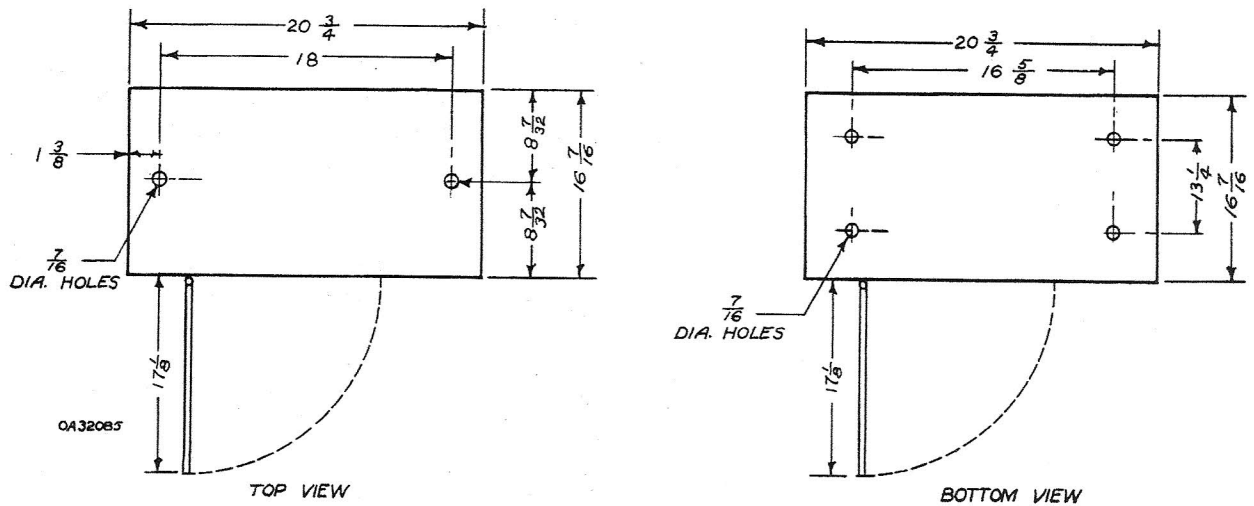

Figure 4 — Cabinet CS-88-A, Mounting Hole Layout
a. **MOUNTING AND FASTENING.**—Radio Transmitter BC-640-A occupies a minimum of floor space. It is six feet high. It is important that the cabinet be securely fastened to the floor in fixed installations, and to both floor and ceiling in portable installations, or a violent shock might upset it. When the transmitter is installed in *trucks and trailers*, always use rubber shockmounts at top and bottom. Cabinet CS-88-A is drilled at top and bottom for this purpose (see figure 4 for mounting hole layout). In fixed stations, the transmitter is usually mounted on wooden blocks, the blocks being in turn fastened to the floor, as are the shockmounts when used. The procedure for mounting the transmitter will depend entirely on the type of fastening to be used. The holes in the bottom of the cabinet can be reached by opening the rear door. When using shockmounts, it is possible to insert the bolt, apply shockmount, lock washer and nut and tighten from the outside. If lag bolts are used, there may not be enough room to use a wrench. If so, disconnect wiring at the rear of Power Control Panel PN-13-A, remove front panel screws, and lift panel from the transmitter. The cabinet terminal board and the autotransformer can then be unscrewed and swung out of the way, exposing the bottom mounting holes. *Be sure to allow from six to twelve inches clearance at the sides of the transmitter for circulation of air.* Allow enough clearance at the rear to open the door, which swings on a radius of 17 inches. If there is not enough room to swing it open, the rear door can be removed by pulling the pins out of the hinges.